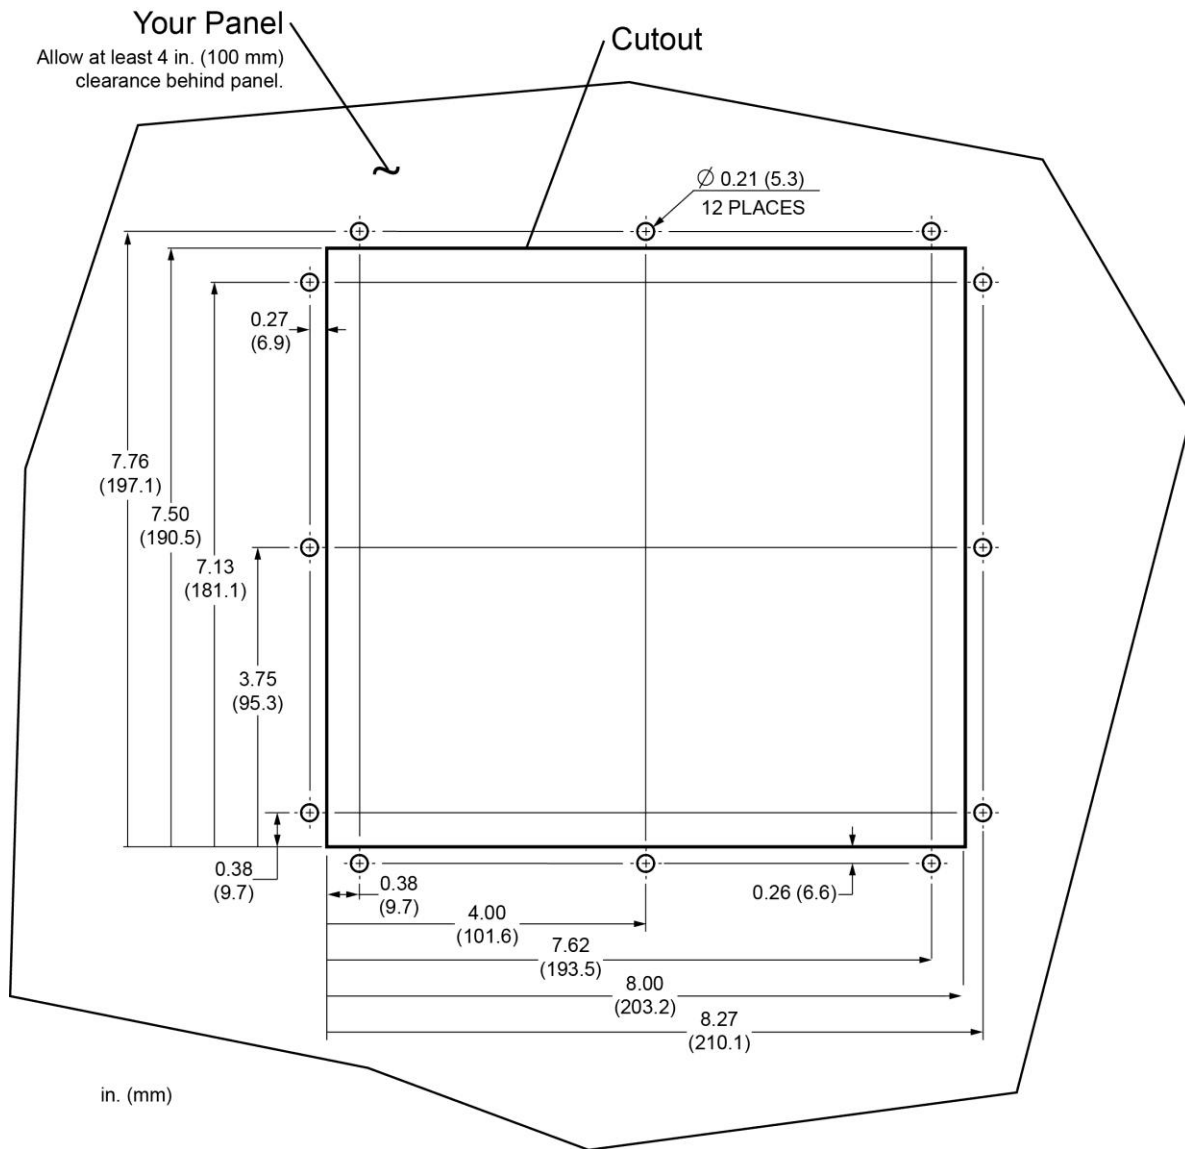
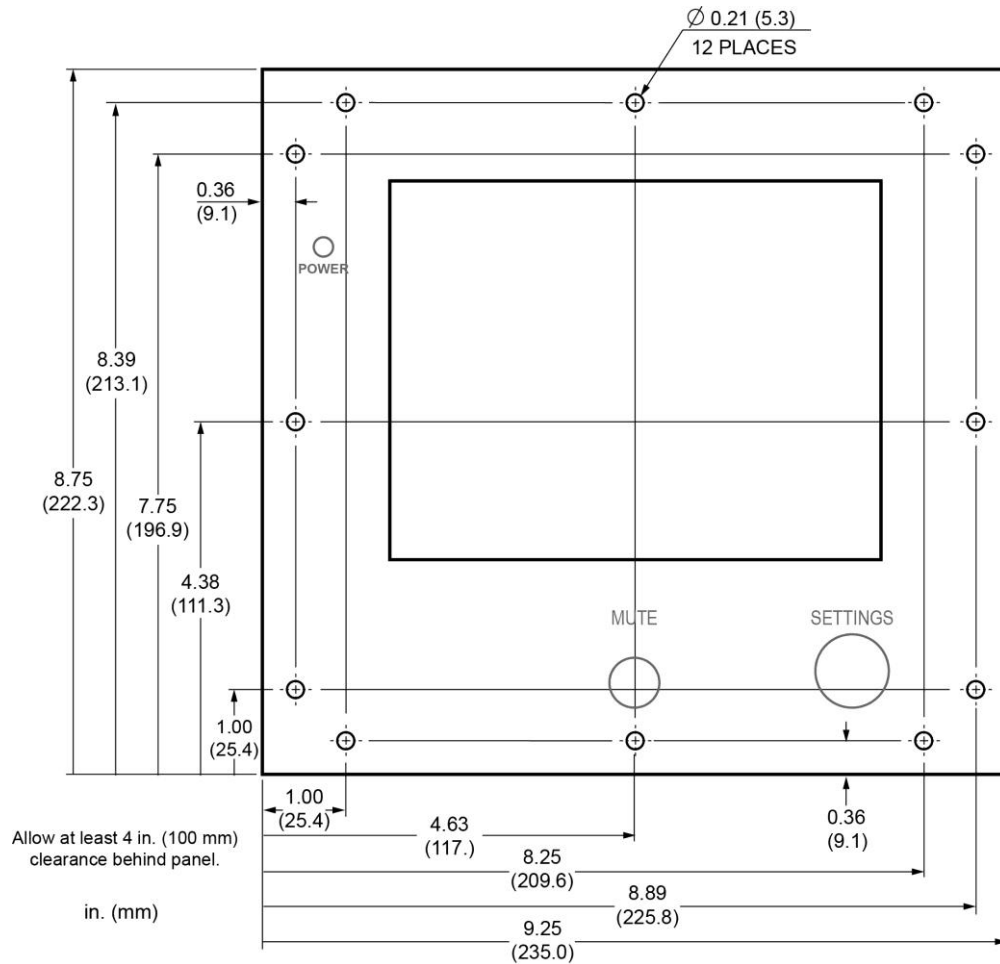

Figure 2-25. WPC APEX Panel Mount Cutout Dimensions
Figure 2-26. WPC APEX Panel-Mount Faceplate Dimensions
To install the panel-mount display in your enclosure or console, do the following, referring to Figure 2-25 and Figure 2-26 for mounting and cutout dimensions:
2. Cut out a hole in your enclosure or console, and drill and tap twelve holes for #10-32 screws, referring to Figure 2-25.